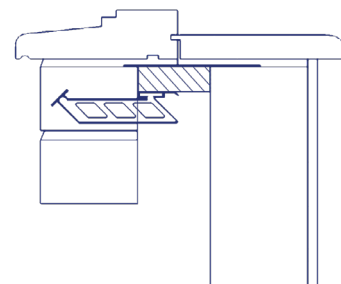

Fig.1
- Suitable for flush jambs and sill positions (see Fig.1)